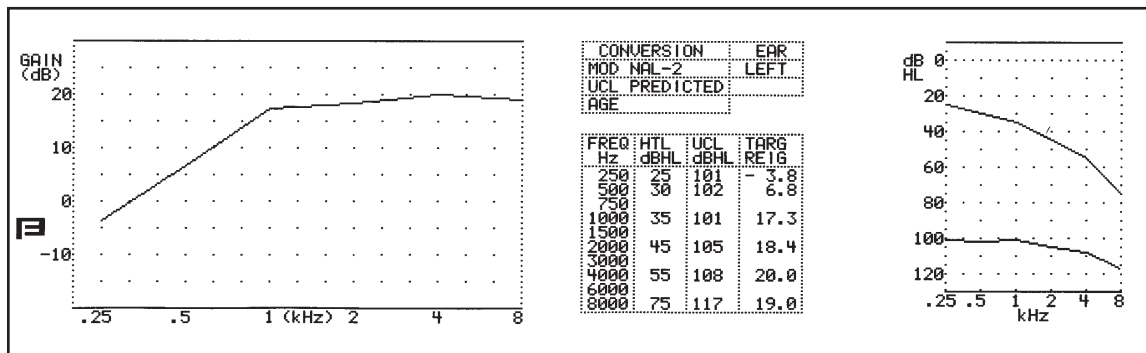

Figure 5.2.5—Modifying an existing target
3. Use the AMPLITUDE and FREQUENCY knobs to make any desired modifications. The target will be labeled with a note denoting that it has been modified. See Figure 5.2.5.